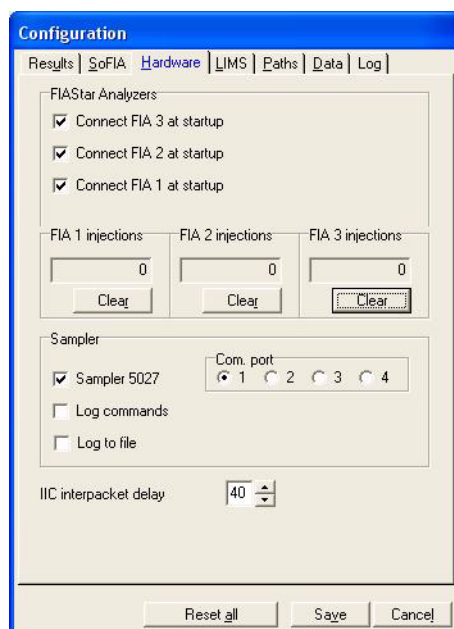

Fig. 7:80
2. Select Configuration/Settings/Hardware. The window in Fig. 7:80 should appear.